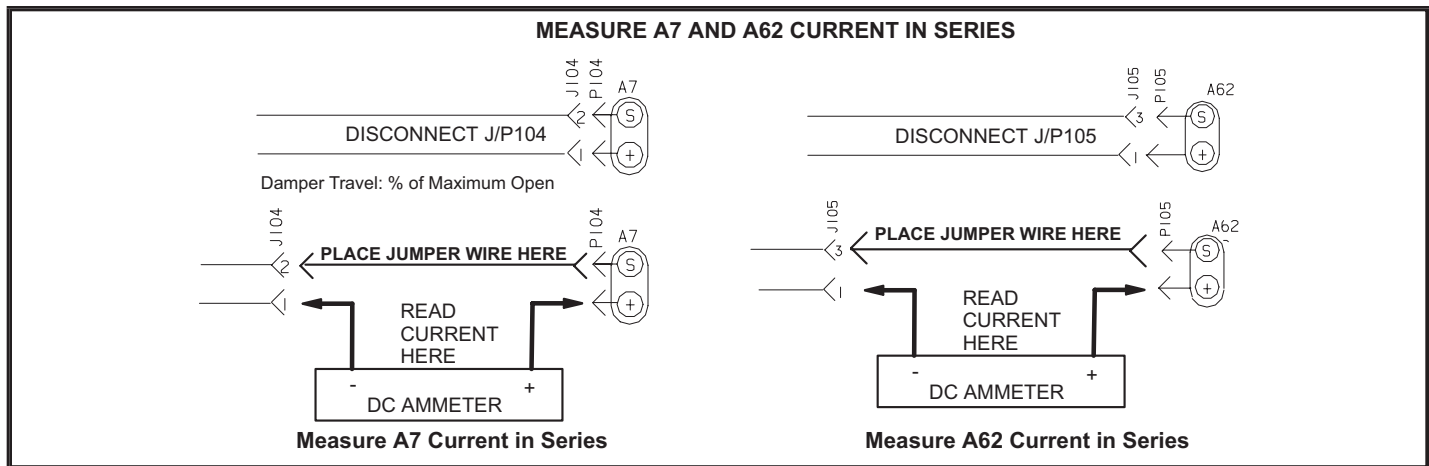

FIGURE 9
- A - Connect a direct current ammeter as shown in FIGURE 9 to measure current output of A7 or A62.